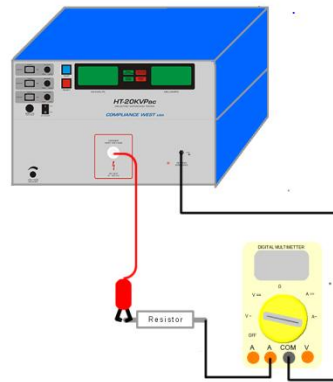

Figure 5-2. Current Measurement with 100 W High Voltage Resistor.
2. Connect the output of the HT-20KVPac through a 100 watt high voltage load resistor (60k Ω) in series with an external current meter returning to the Return jack on the front panel of the HT-20KVPac as is shown on figure 5-2.